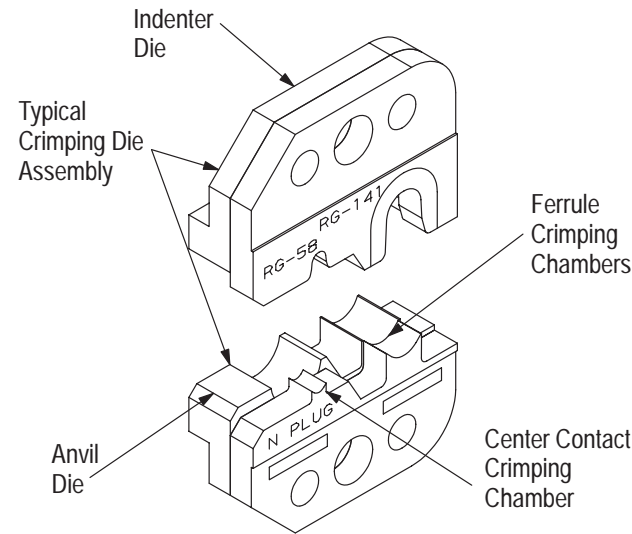

Figure 1
3. DIE INSTALLATION (Figure 1)